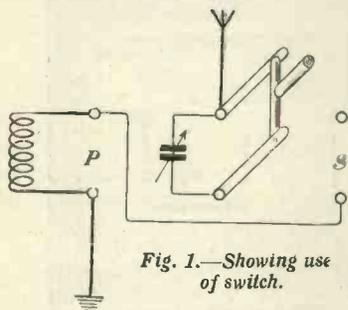

Fig. 1.—Showing use of switch.
**T**HE double-pole change-over switch has many uses on the wireless set. Two of the handiest are seen in Figs. 1 and 2.